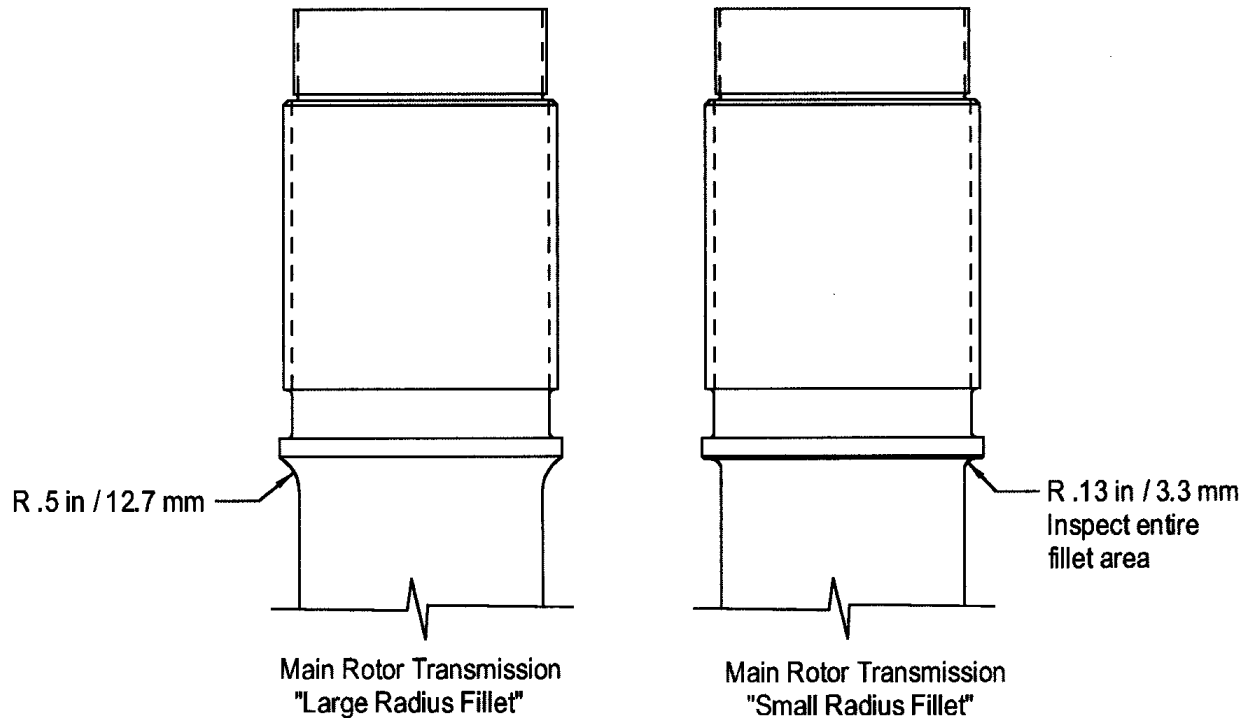

Figure 1. Main Rotor Shaft Inspection
An operator reported the failure of a main rotor shaft on an F-28A model helicopter. Preliminary investigation revealed that the main rotor shaft installed in the main rotor transmission, P/N 28-13101-1-R, failed because of a fatigue crack in the fillet area of the shaft directly beneath the main rotor hub. The 28-13101-1(-R) main rotor transmission is equipped with a small radius main rotor shaft (Refer to Figure 1). Main rotor transmission, P/Ns 28-13101-2(-R), -3(-R), -5(-R), -8(-R), and -9(-R), may also be equipped with a small radius main rotor shaft.
- A. All models: Determine the part number of the main rotor transmission installed in the helicopter and verify the radius of the main rotor shaft fillet (Refer to Figure 1).
- C. F-28A and 280 models: If the helicopter has a main rotor transmission equipped with a small radius main rotor shaft, perform a visual inspection of the main rotor shaft fillet area using a 10X magnifying glass (Refer to Figure 1). Inspect the fillet area for cracks. Repeat the inspection using a dye penetrant inspection kit if a crack is suspected. If the main rotor shaft is cracked, the helicopter is unairworthy until the main rotor transmission is removed and replaced with an airworthy main rotor transmission equipped with a large radius main rotor shaft (Refer to Table 1). If the main rotor shaft is not cracked, the helicopter may be returned to service.
- A. F-28A and 280 model helicopters with a main rotor transmission equipped with a small radius main rotor shaft: Perform a dye penetrant inspection of the fillet area of the main rotor shaft directly under the main rotor hub (Refer to Figure 1). Inspect the fillet area for cracks, nicks, and/or scratches. Polish out nicks and/or scratches less than .005 in./13 mm deep (.008 in./2 mm maximum repair depth). If the main rotor shaft is cracked or the nicks and/or scratches exceed the limits, the helicopter is unairworthy until the main rotor transmission is removed and replaced with an airworthy main rotor transmission equipped with a large radius